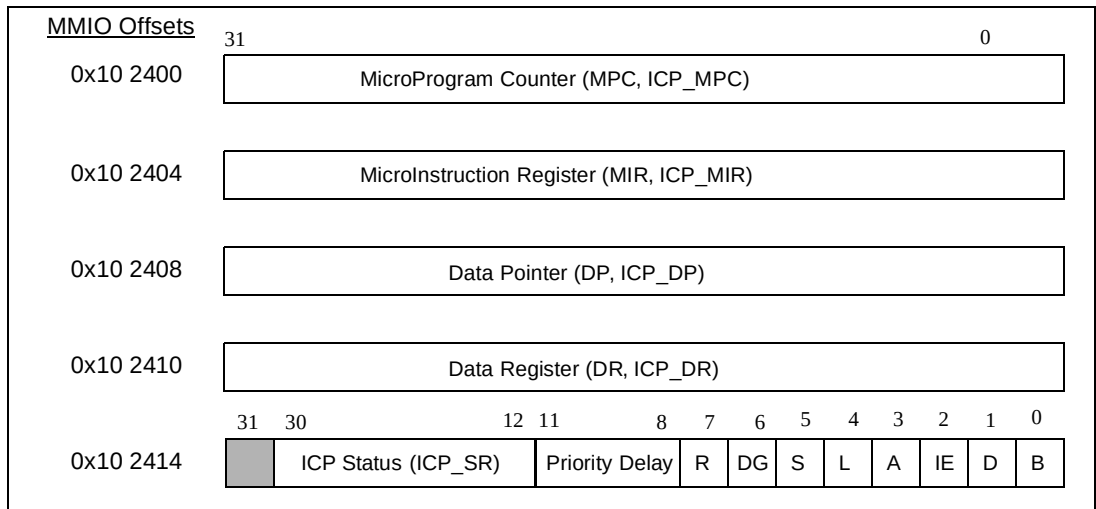

**Figure 14-17. ICP MMIO Registers**
The ICP is controlled by the DSPCPU through five MMIO registers: the MicroProgram Counter (MPC), the Micro Instruction Register (MIR), the Data Pointer (DP), the Data Register (DR) and the ICP Status register (SR), as shown in Figure 14-17. The MPC, DP and SR are used in normal operations, and the MIR and DR are used in test and debug. Note that the MMIO registers should *never* be written while the ICP is executing microcode, i.e test the Busy bit in the SR register before writing any ICP MMIO register.